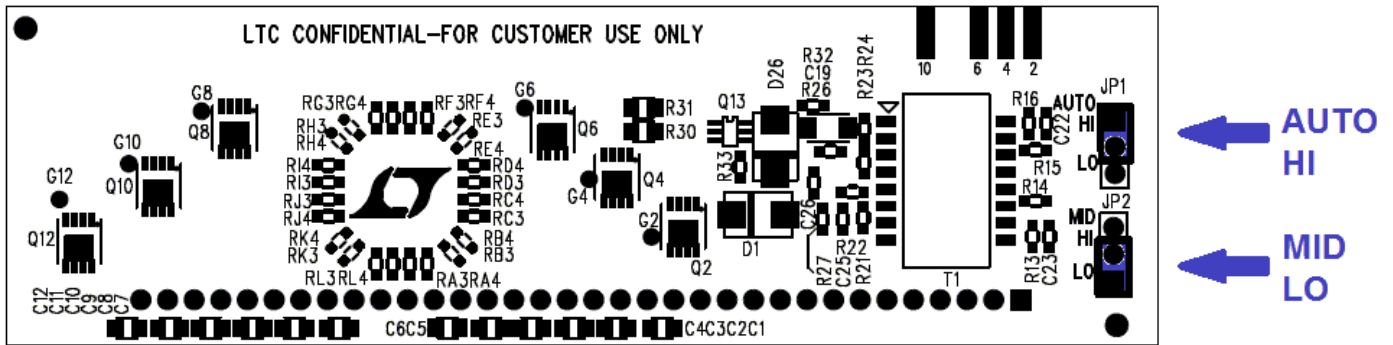

Figure 1. DC1682 Backside. Setting AUTO and MID Jumpers
Demonstration kit DC1840B includes the DC1682 daughter card and DC1680 mother board. The kit is set up for evaluating the LTC4270/LTC4271. Follow the procedure below and refer to Figures 1 through 4 for proper equipment setup.
1. On the DC1682 set AUTO jumper JP1 to HI (Figure 1) to enable AUTO pin mode.
2. On the DC1682 set MID jumper JP2 to LO (Figure 1) to disable midspan mode.